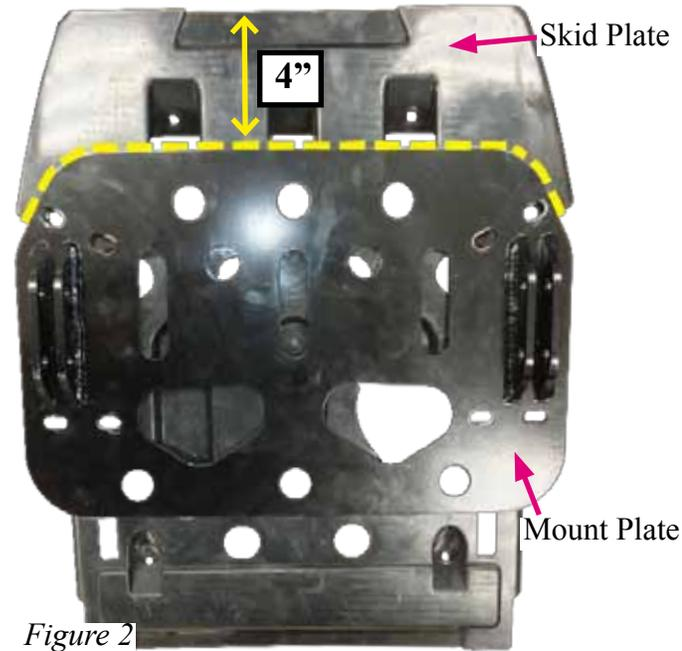

Figure 2
1. **(On the 400/500)** Hold the mount up to the skid plate underneath the ATV. Measure 4" back from the front of the center skid plate. Shown in Figure 2. Center your mount and mark bolt holes using the mount as a template.